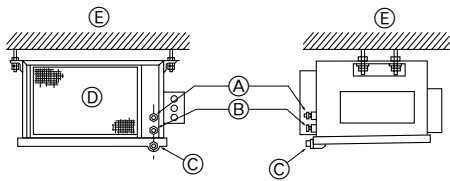

Fig. 4-3
4.3. Refrigerant and drainage piping locations of indoor unit (Fig. 4-3)